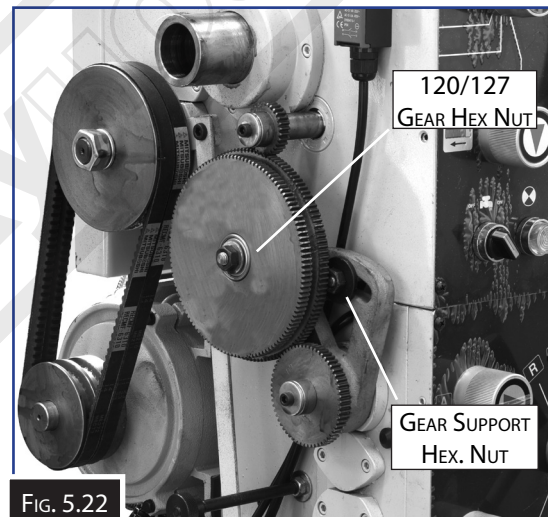

FIG. 5.22
4. While holding the 120T/127T gears, loosen the arm by undoing the gear support hex nut and slowly let the gears pivot down and away from the upper top gear, as illustrated (Fig. 5.22)